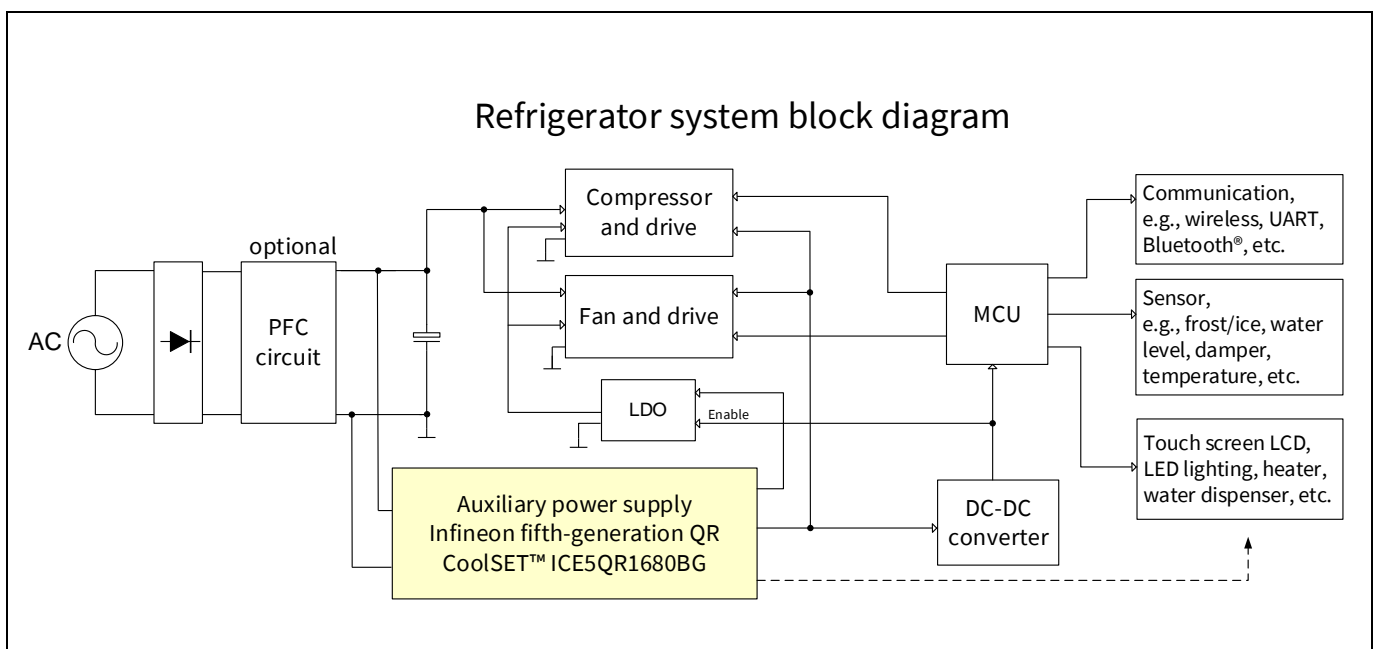

Figure 1 Simplified refrigerator system block diagram
An auxiliary SMPS is needed to power the various modules and sensors, which typically operate from a stable DC voltage source. The Infineon CoolSET™ (as shown in **Figure 1**) forms the heart of the system, providing the necessary protection and AC-DC conversion from the mains to multiple regulated DC voltages to power the various blocks.
The input of the refrigerator auxiliary power unit is taken from the AC power grid, which is in the range of 85 V AC ~ 264 V AC. The fuse F1 is right at the entrance to protect the system in case of excess current entering the system circuit due to any fault. Following is the varistor VR1, which is connected across L and N to absorb the line surge transient. Common mode (CM) choke L1 and X-capacitor C1 form a basic filter to attenuate the DM and CM conducted EMI noise. The bridge rectifier D1 rectifies the AC input into DC voltage, filtered by the π filter (capacitor C2, C2a and L2). The above is not applicable if the power-factor correction (PFC) circuit is used as shown in Figure 1.